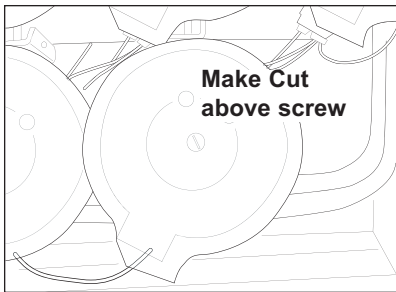

Figure 2
1. With burner pan still removed, make a small cut above screw head See Fig. 2. This cut should be sufficient to allow for screw removal.